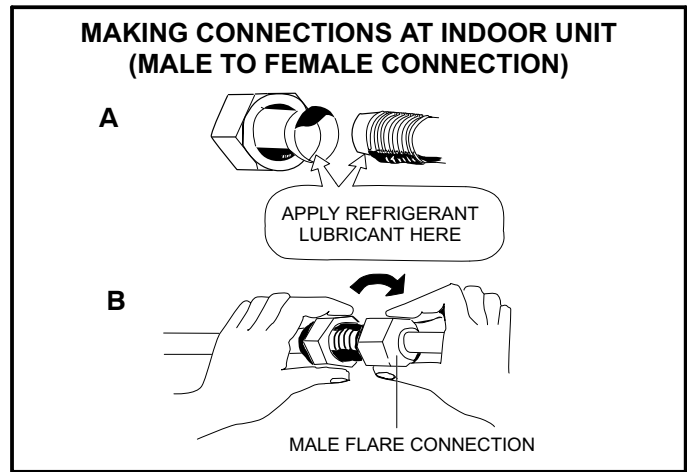

FIGURE 38
2. Apply refrigerant lubricant to the matching surfaces of the flared line set and union before connecting them together (figure 38 -- A).
3. Align the union tube and flared refrigerant line with each other, then tighten the flare nut lightly at first to obtain a smooth match (figure 38 -- B).